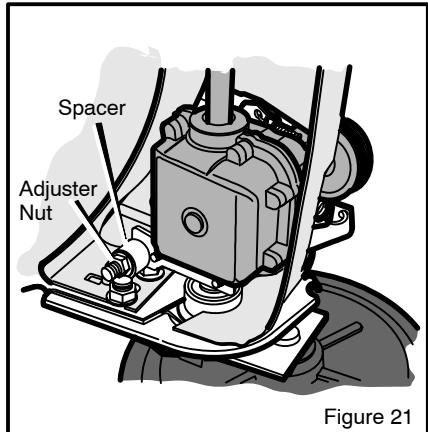

Figure 21
- a. Tighten the **adjuster nut** until the nut touches the **spacer** (Figure 21). Try to turn the **spacer**. When the **adjuster nut** touches the **spacer**, the **spacer** will not turn.